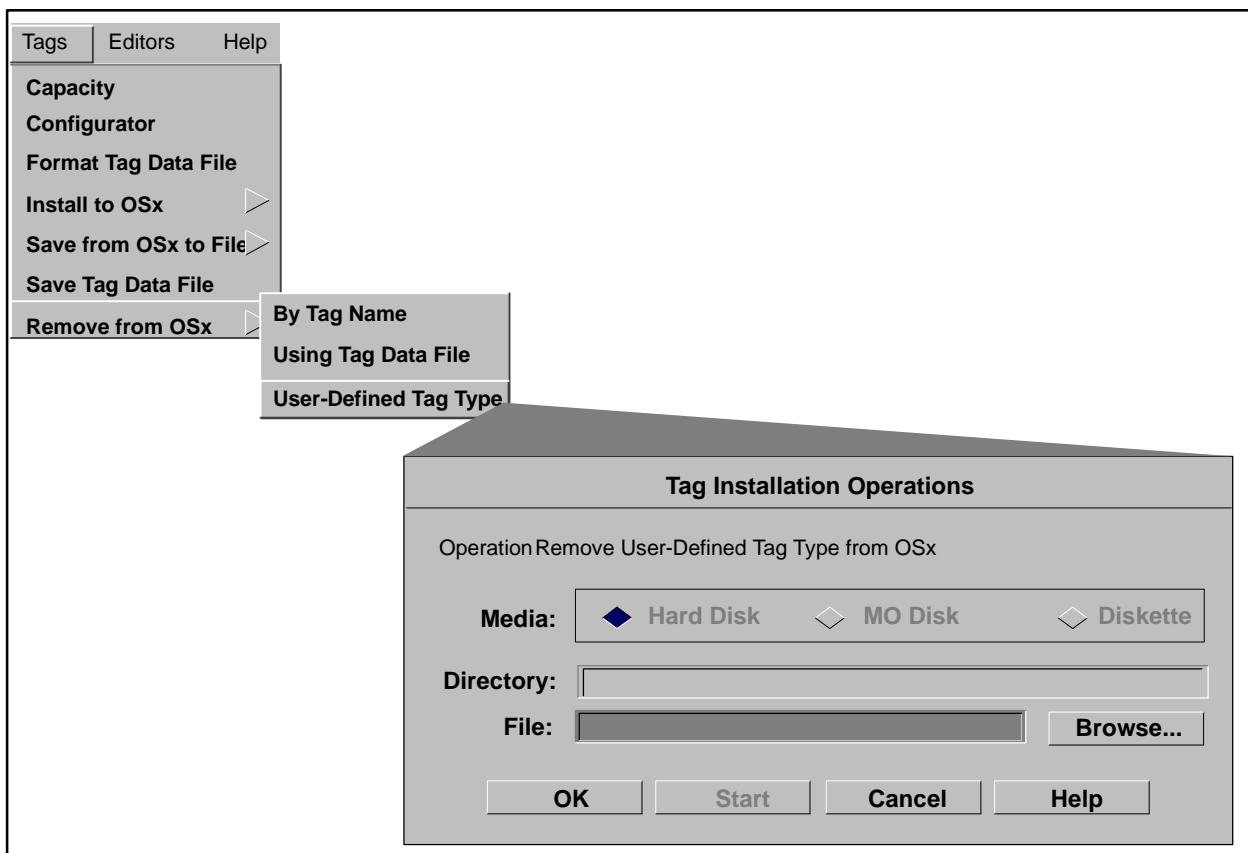

Figure 4-23 Removing Tags
2. Select **Tags->Remove from OSx->User-Defined Tag Type** from the main menu bar (Figure 4-23).